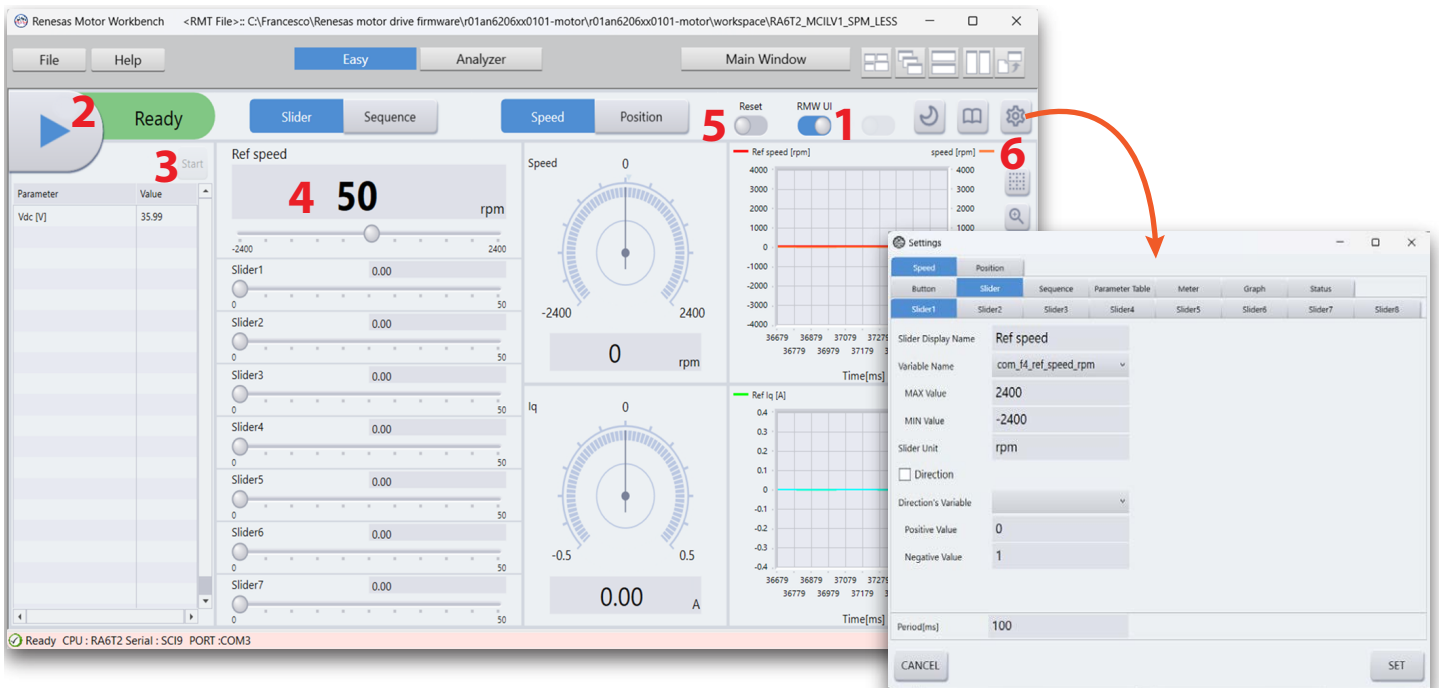

Figure 21: Renesas PC GUI motor control settings
- 6) Click on the **Settings** button and then click on the **blue button** in figure 21 to set the desired maximum reference speed value